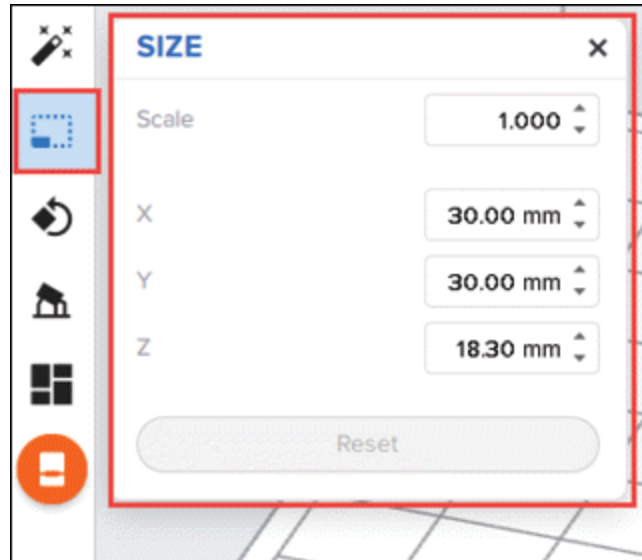

Figure-53. SIZE toolbox
- Click on the **Size** button from the **Toolbar** at the left in application window. The **SIZE** toolbox will be displayed; refer to Figure-53.